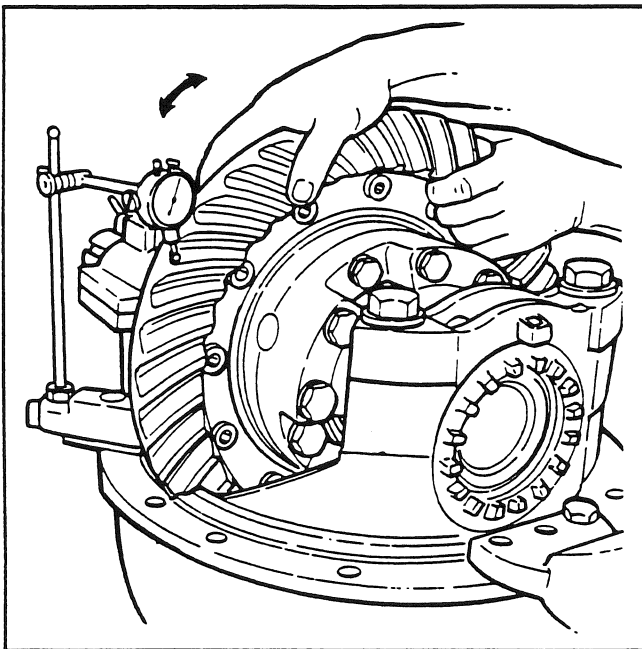

Fig. 73
3. Install a dial indicator on the carrier mounting flange. Adjust the dial indicator plunger to touch the tooth surface of the ring gear (see Fig. 73). Adjust the indicator needle to zero (0). Hold the drive pinion in position.